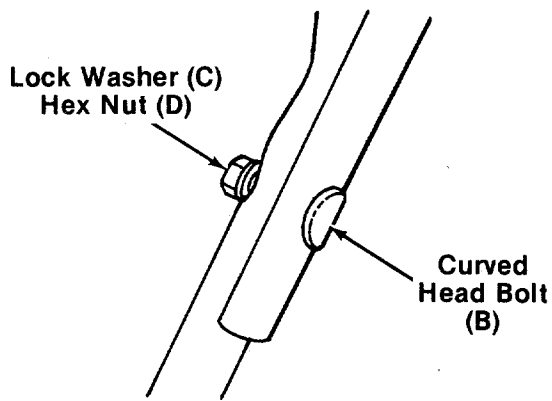

FIGURE 4.
- Place the upper handle in position over the lower handle. The control housing must be on the left hand side of the handle. Secure the left hand side of upper handle using the curved head bolt (B), lock washer (C) and hex nut (D) as shown in figure 4.